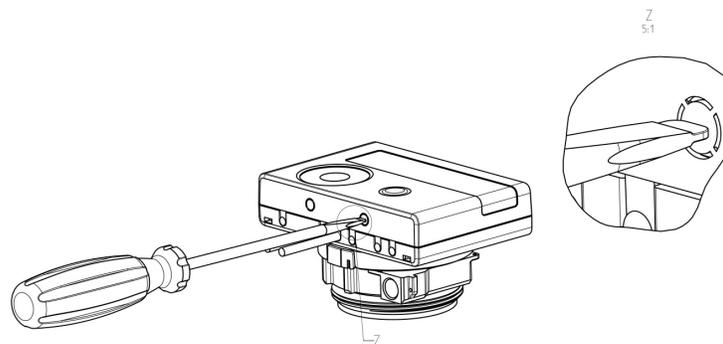

Figure 10: Press breaking points
1. Use a screwdriver with a wide tip (4...5 mm) and carefully press in the two round predetermined breaking points above the cable feedthroughs (see Figure 10).